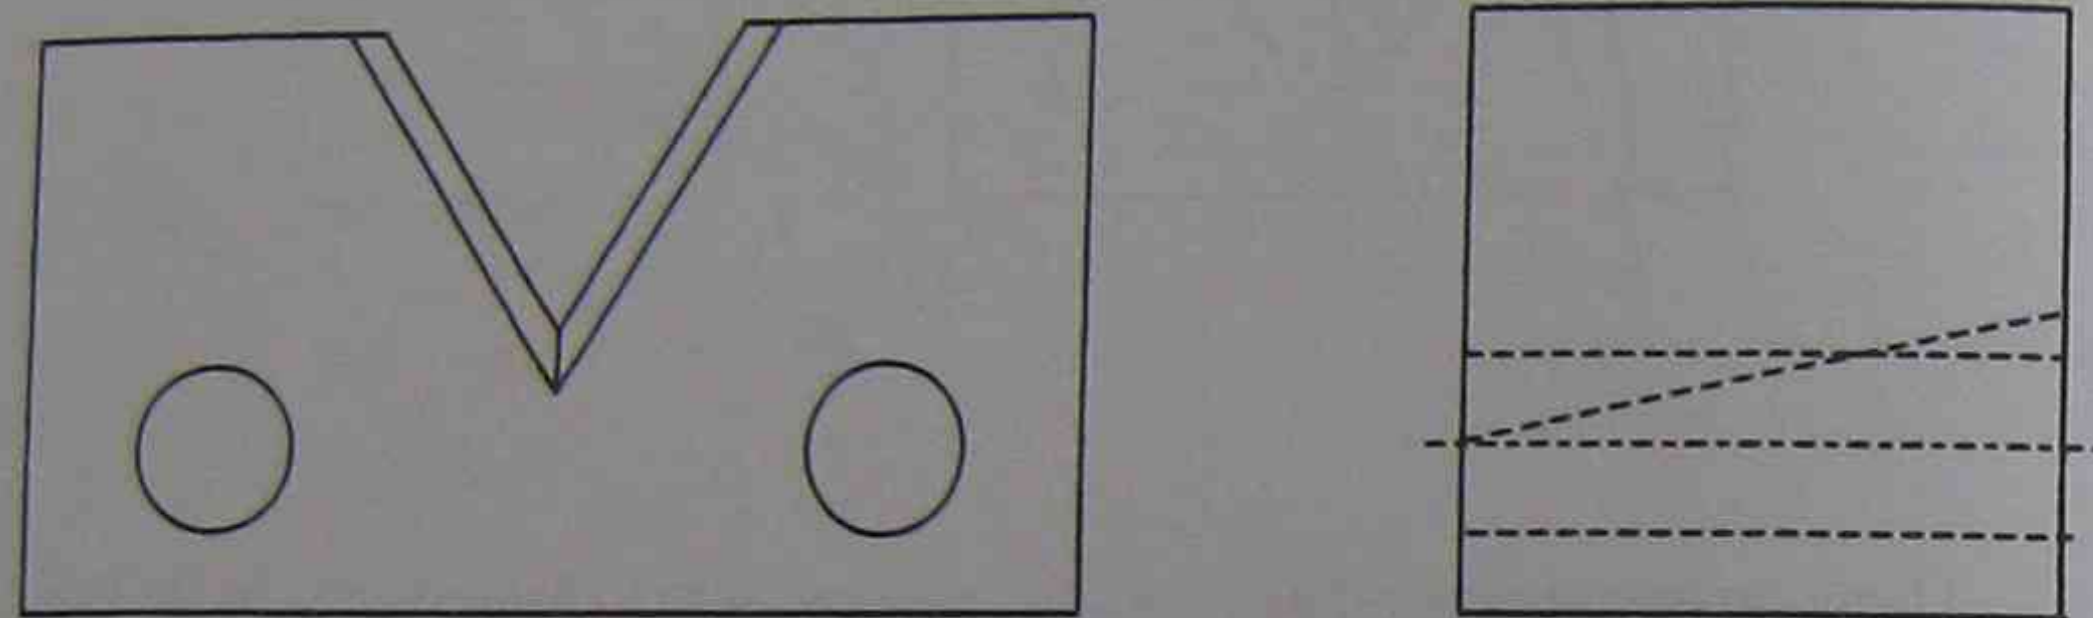

Figure 6
4. Using projection techniques, add the missing top view of the third angle projection drawing of figures 6 and 7 below.